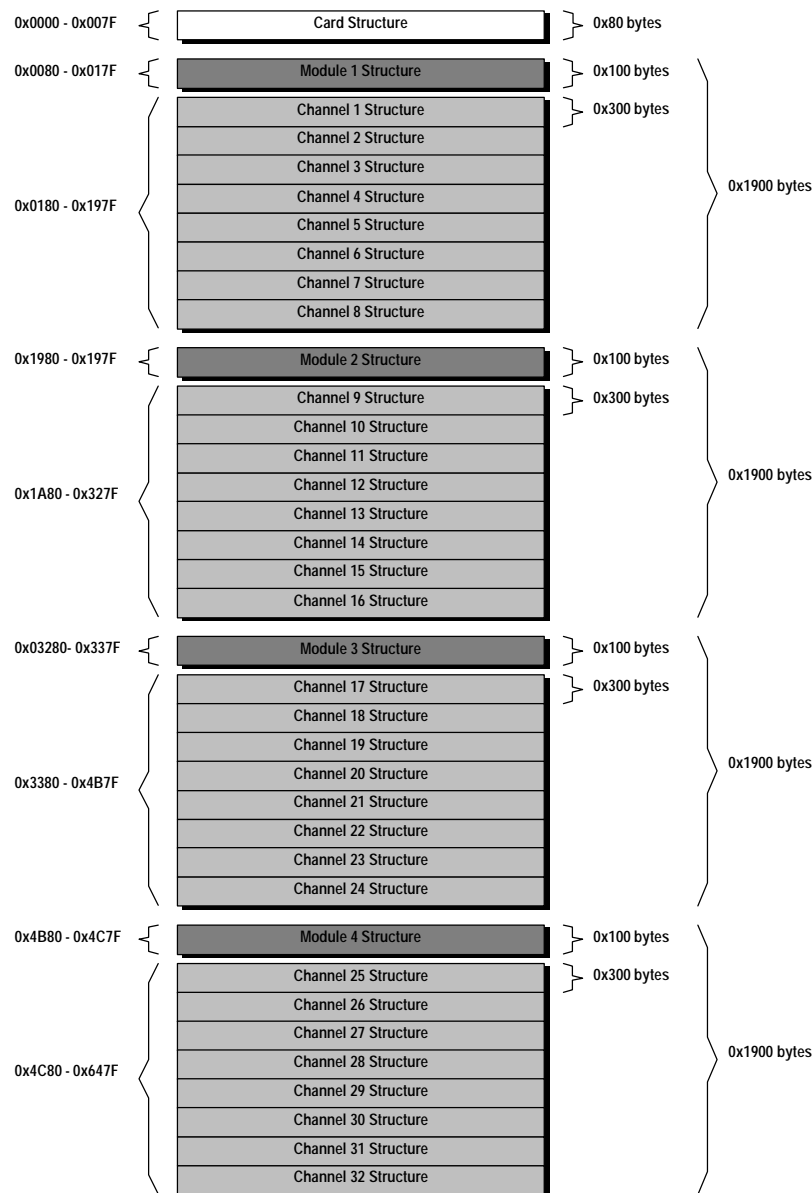

Figure 8 Shared Memory Window Structures
6.1.3 Figure 8 shows the typical structure layout of a 32 port SI/XIO system.